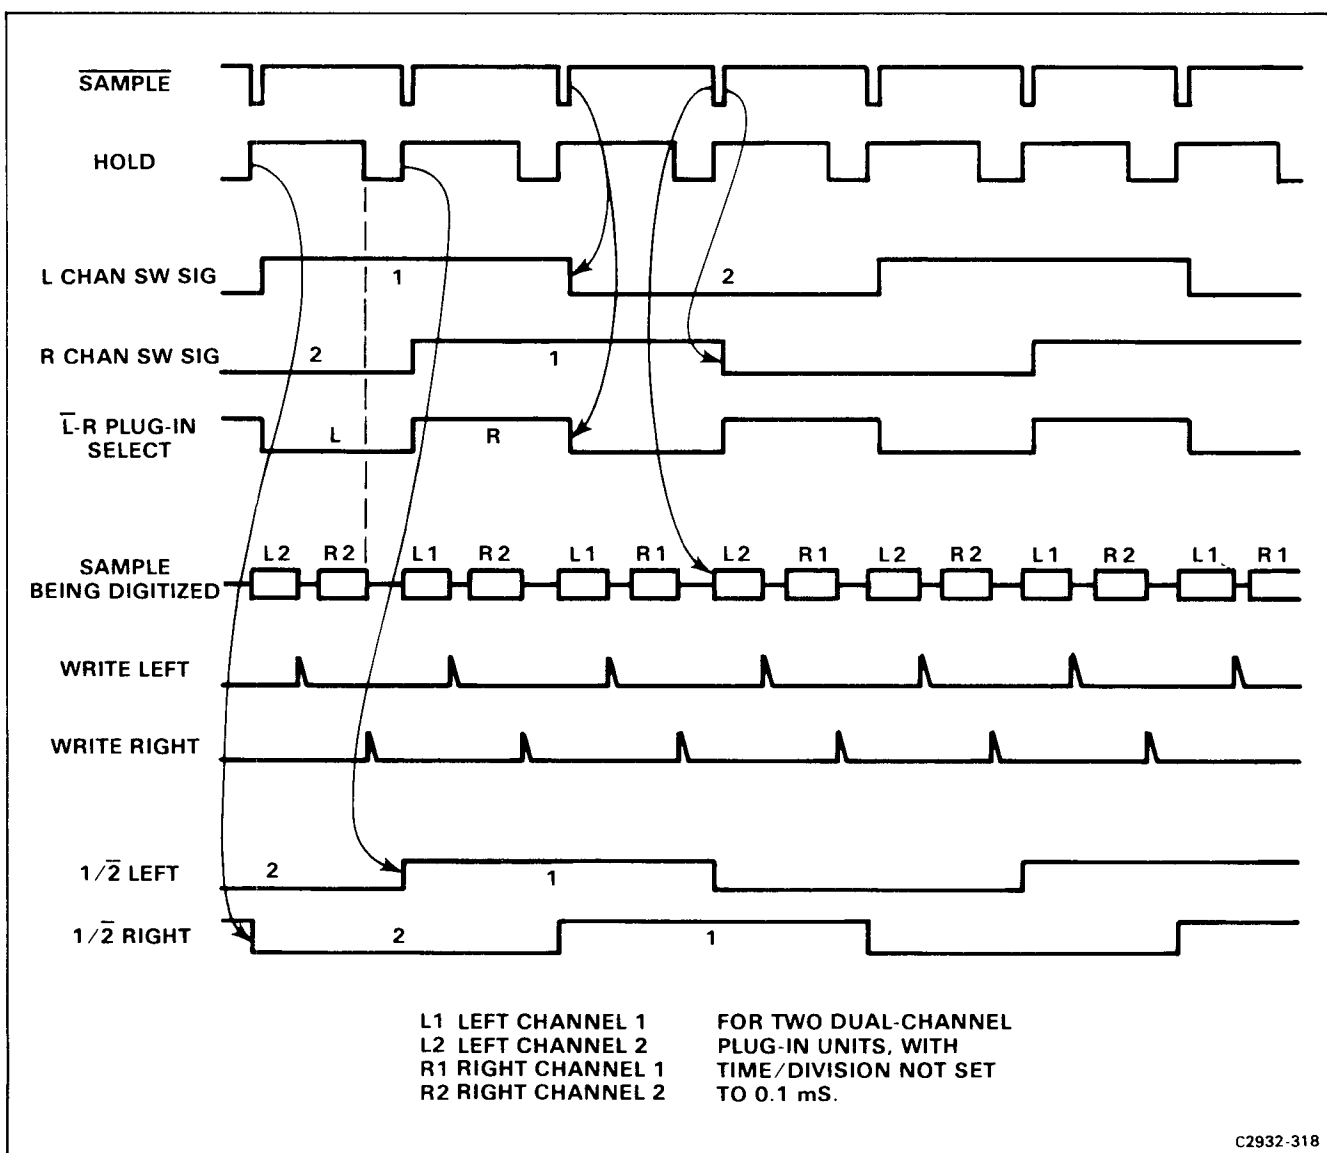

Figure 4-4. Relation of Sample, Channel-Switch and Write signals.
**12. Horizontal (X) Memory Display Output.** The Horizontal (X) Memory Display Output signal comes from the horizontal memory via slew-rate-limited amplifiers on the A3-XYZ Board. The slew rate can be adjusted with the DISPLAY OUT SPEED control on the rear panel.
**14. Left Chan Sw Sig.** The Left Chan Sw Sig selects either Channel 1 or Channel 2 of the left plug-in to be sent to the A9-Interface Board, via the Analog Signal line. The A9-Interface Board generates the TTL-level Left Chan Sw Sig and its counterpart, Right Chan Sw Sig. Left leads Right by 90°. The left plug-in amplifier will use Left Chan Sw Sig if it is a dual-channel model. Figure 4-4 shows the relation of the Left Chan Sw Sig to its associated signals.
**25. Right Chan Sw Sig.** The Right Chan Sw Sig selects either Channel 1 or Channel 2 of the right plug-in to be sent to the A9-Interface Board, via the Analog Signal line. The A9-Interface Board generates the TTL-level Right Chan Sw Sig and its counterpart, Left Chan Sw Sig. Right lags Left by 90°. The right plug-in amplifier will use Right Chan Sw Sig if it is a dual-channel model. Figure 4-4 shows the relation of the Right Chan Sw Sig to its associated signals.
**34. Vertical (Y) Memory Display Output.** The Vertical (Y) Memory Display Output signal comes from the vertical memory via slew-rate-limited amplifiers on the A3-XYZ Board. The slew rate can be adjusted with the DISPLAY OUT SPEED control on the rear panel.
**41.  $1/2$  Left.** A TTL signal from the A9-Interface Board for the A11-Memory Board. When a digital word is written in memory, the level on the  $1/2$  Left line indicates the state of the left plug-in channel switch at the time the sample was taken (except at 0.1 ms/division with two vertical plug-in units turned on). This identifies the origin of the digital word. See Figure 4-4.
**42.  $1/2$  Right.** A TTL signal from the A9-Interface Board for the Memory Board. When a digital word is written in memory, the level on the  $1/2$  Right line indicates the state of the right plug-in channel switch at the time the sample was taken (except at 0.1 ms/division with two vertical plug-in units turned on). This identifies the origin of the digital word. See Figure 4-4.